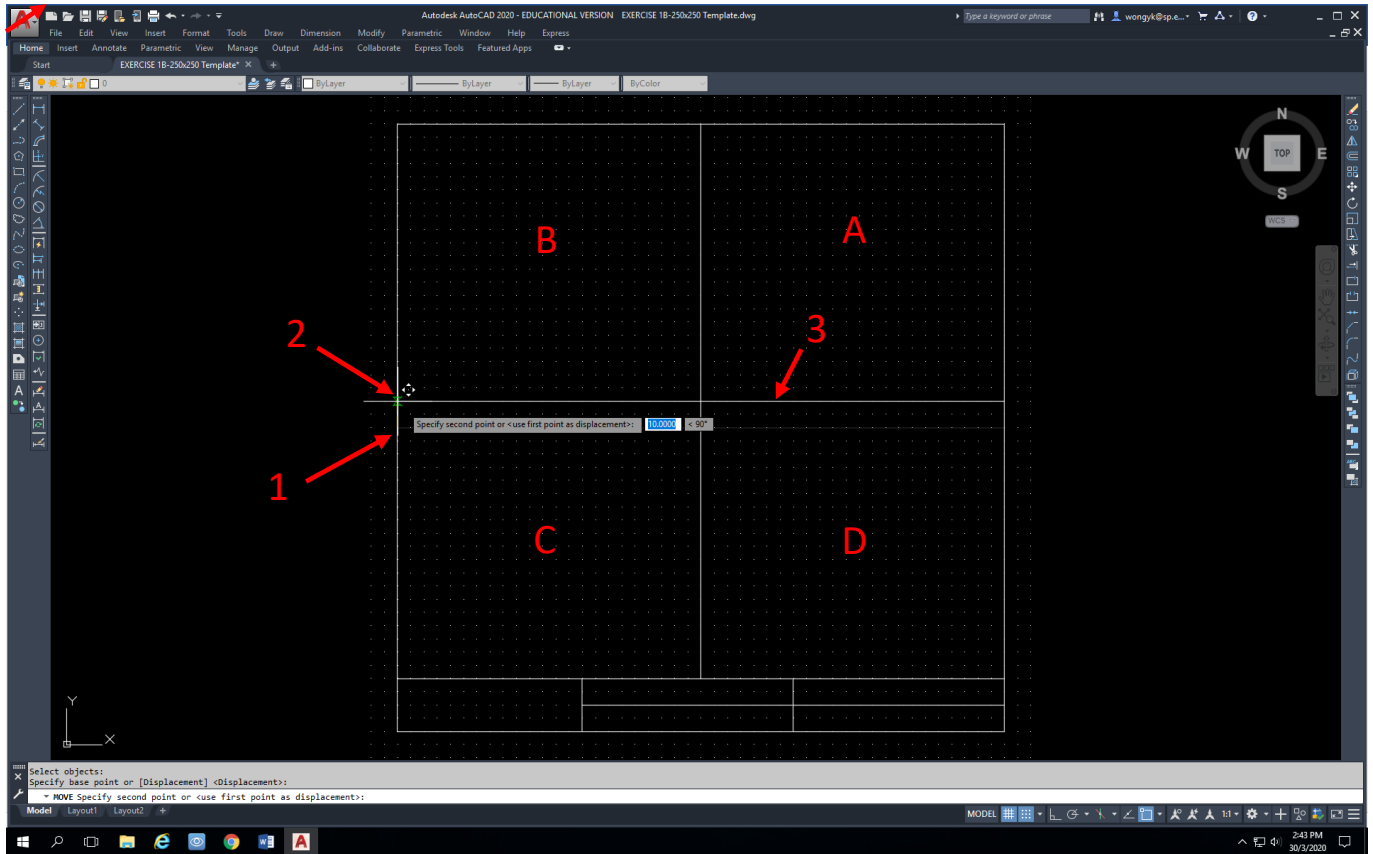

Fig 6
Hence horizontal line have to move 10mm upwards. Fig 6 shall show how to move the horizontal line upwards by 10mm
Select Object: **click on the horizontal middle line in Fig 6 (3)**
The horizontal line has been moved 10mm above the original position **(3)** as shown in Fig 6.